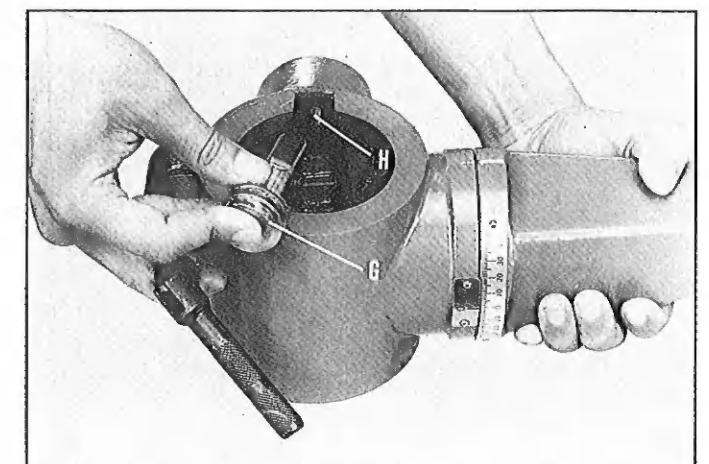

Fig 3
- Assemble worm gear (G) to hole (H) in table bracket, as shown in Fig. 3.